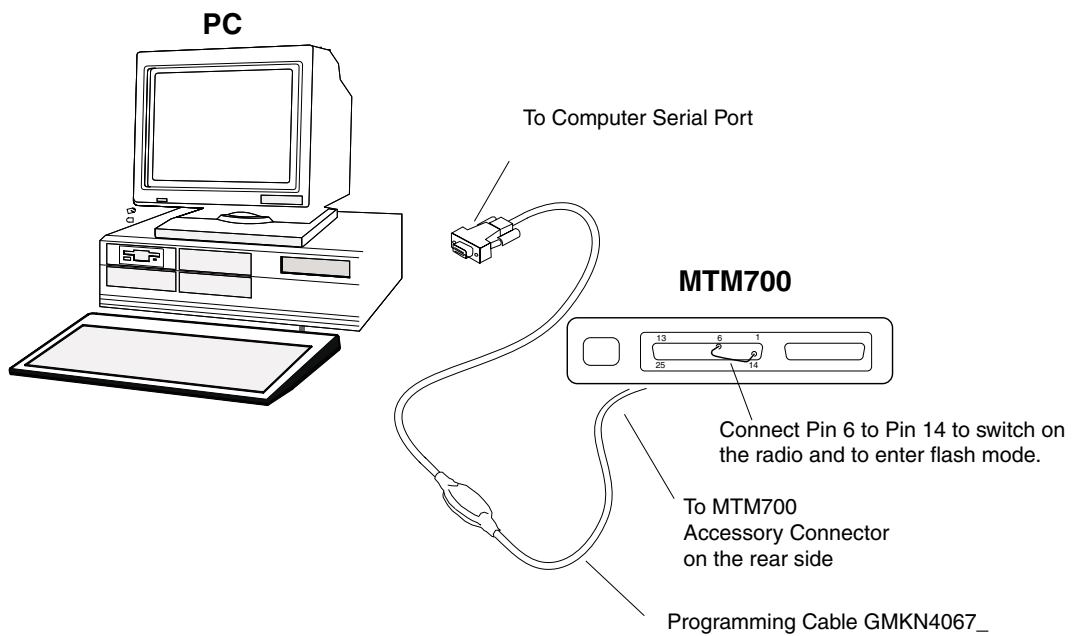

Figure 2 PROGRAMMING WITHOUT CONTROL HEAD VIA ACCESSORY CONNECTOR
1. After testing your radio on the IFR, connect the setup shown in Figure 1 or Figure 2.